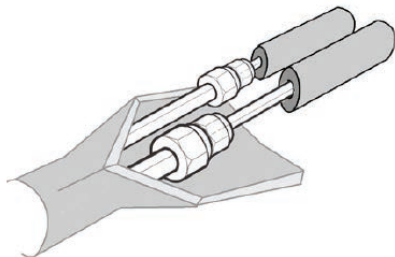

fig. 24 -
- The connection fitting of the indoor unit must be wrapped with thermal insulating material "fig. 24 -".